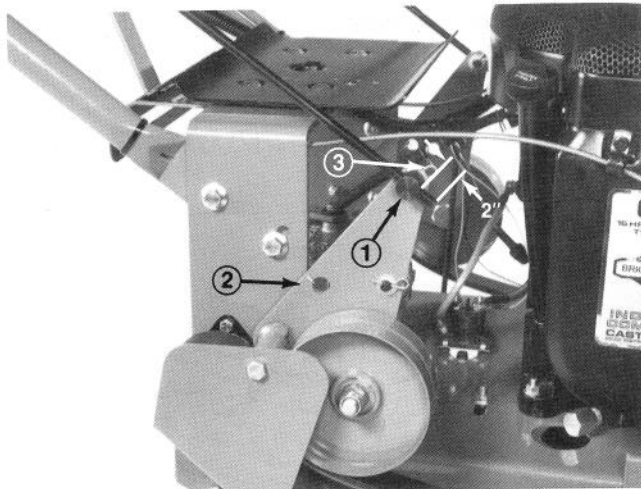

Figure 5
1. Thread a rod fitting onto each control rod approximately 2" (Fig. 5).
2. Insert rod fitting ends into mounting holes in idler brackets (from outside) and secure with washers and hairpin cotters (Fig. 5).
5. Check travel of idler pulleys when fully engaging wheel belts. Pulley travel should be approximately 3/4" (Fig. 5)